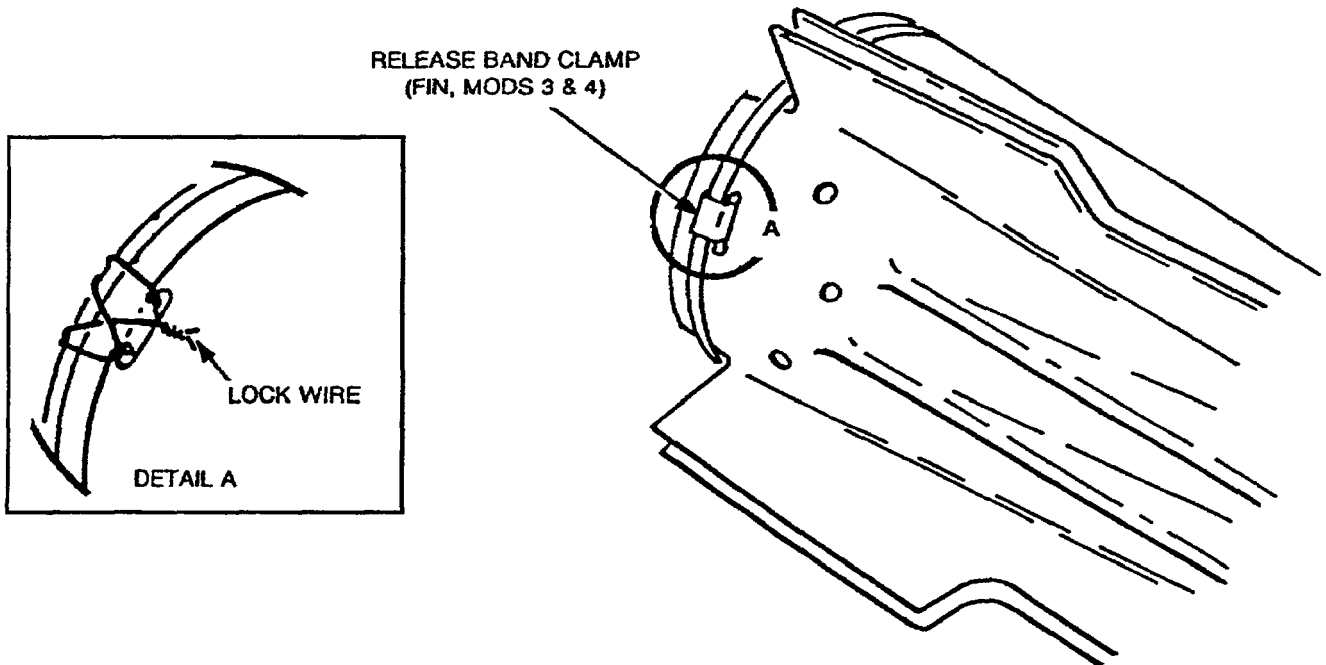

Figure 4-9C. Release Band Secured
- (1) Clamp fin together with wrench pliers.
- (2) Remove safety pin from release band latch. Remove release band and wire or clamp (Figure 4-9C).
- (3) Discard clamp.
- (4) Install longer release band, close latch and insert safety pin from the aft side, into release band latch hole farthest from release band latch lever.
- (5) Remove wrench pliers.
- (6) Secure release band to bottom fin blade with four turns of wire around release band and then through adjacent cutout/slot in fin (Figure 4-9C, detail A).
- (7) Twist ends together and bend back against fin.